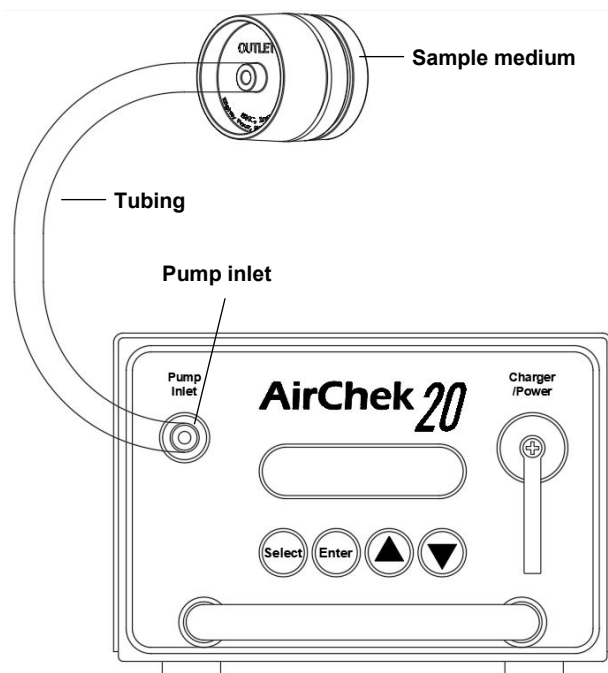

Figure 4. Sampling Train
8. Disconnect the flowmeter from the sampling media inlet. Replace representative sampling medium with a new unexposed sampling medium. *See Figure 4.*
After setting/verifying pump flow rate, replace the representative sampling medium with a new unexposed sampling medium for the sampling train (Figure 4). Follow the procedures below for manual and programmed runs.